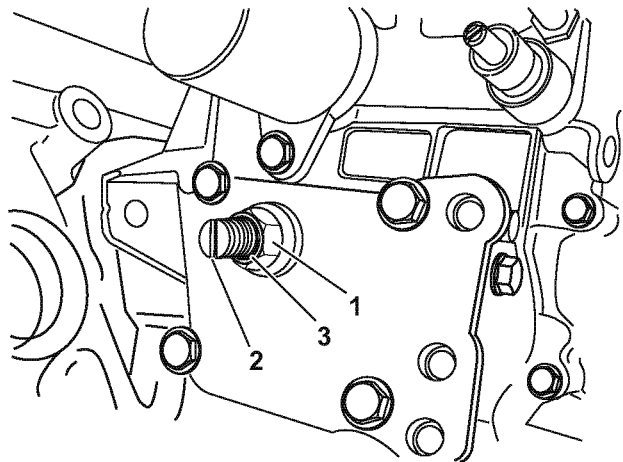

Figure 7-37
3. While holding the adjusting bolt (2, **Figure 7-37**), loosen the locknut (1, **Figure 7-37**) approximately one turn.
8. Install the cap nut, making sure the seal washer (3, **Figure 7-37**) is in place. Tighten the cap nut to 16 to 18 N·m (141 to 159 lb-in.).